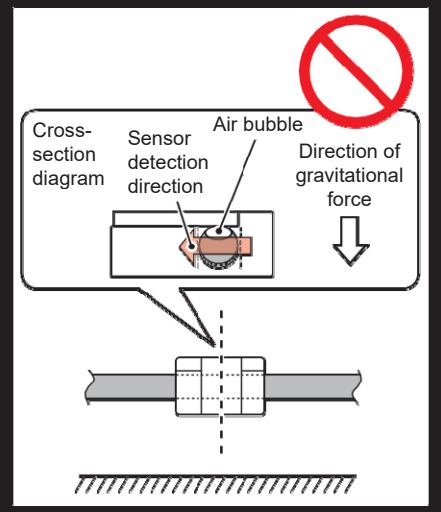

Figure 1-36
2. Attach the clamp-on ABD/Flow sensor to the blood circuit tube. (Figure 1-35, Figure 1-36)
- When the air bubble detection sensitivity is high, attach the sensor so that the ABD/Flow Sensor detection window and the direction of gravitational force are orthogonal. It may not correctly detect air bubbles. (Figure 1-36)